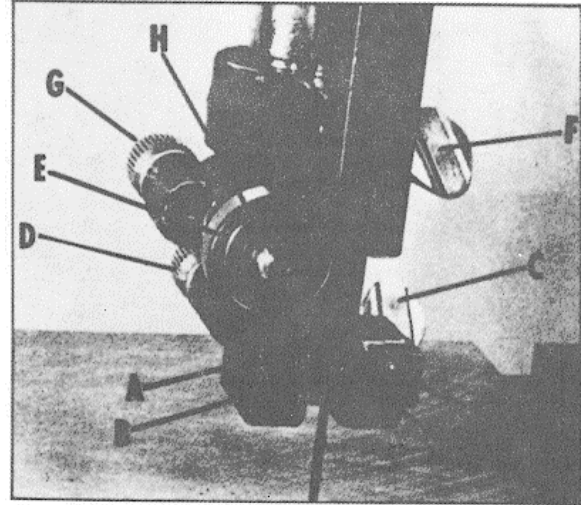

Fig. 17
1. The upper blade guides (A) Fig. 17, are held in place by means of the setscrews (B). Loosen the setscrews (B) to move the guides (A) as close as possible to the side of the blade, being careful not to pinch the blade. Then tighten the screws (B).
2. The guides (A) Fig. 17, should then be adjusted so that the front edge of the guides are just behind the gullets of the saw teeth. The complete guide block bracket can be moved in or out by loosening thumbscrew (C) and turning knurled knob (D) Fig. 17. When guides (A) are set properly, tighten thumbscrew (C).
3. The upper blade support bearing (E) Fig. 17, prevents the blade from being pushed too far to the back which could damage the set in the saw teeth.
4. The blade support bearing (L) should also be adjusted so the back edge of the blade overlaps the outside diameter of the ball bearing by about  $1/16$ ". The bearing (E) is set on an eccentric and to change position remove screws (H) and bearing (E) Fig. 17. Loosen thumbscrew (F), back out screw (G) and reposition shaft that bearing (E) is attached to.